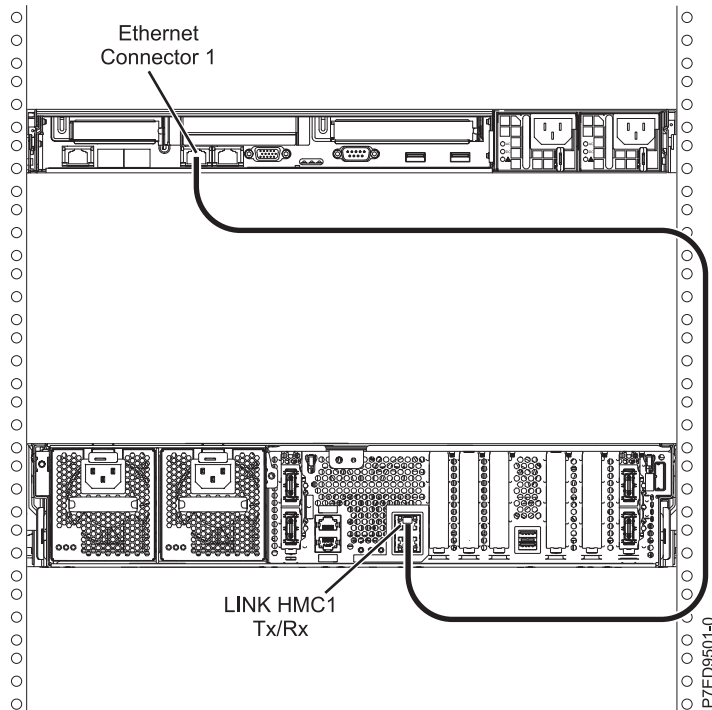

Figure 19. Attaching the HMC to the managed system
1. If you want to directly attach your HMC to the managed system, connect **Ethernet Connector 1** on the HMC to the **HMC1** port on the managed system, as shown in Figure 19 on page 17.